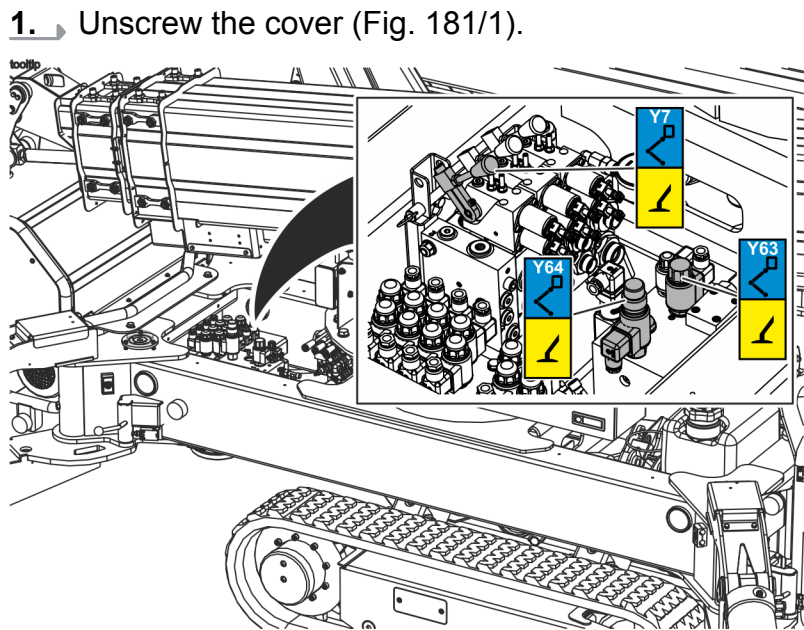

Fig. 182: Platform valves
2. ➔ Completely screw in the pressure relief valve (Fig. 182/Y64).
3. ➔ Unscrew and remove the black cap (Fig. 182/Y63) from the release valve and completely screw out the valve actuator.